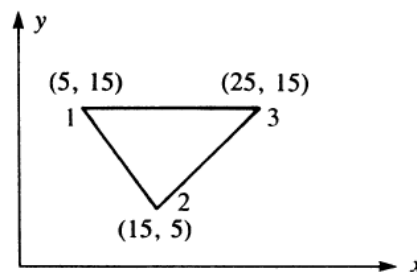

Figure 7
- 5A.** Evaluate the stiffness matrix for the plane stress element shown in Figure 7. **(05)**
- 5B.** For the plane strain elements shown in Figure 7, the nodal displacements are given as $u_1 = 0.005 \text{ mm}$, $v_1 = 0.002 \text{ mm}$, $u_2 = 0.0 \text{ mm}$, $v_2 = 0.0 \text{ mm}$, $u_3 = 0.005 \text{ mm}$, $v_3 = 0.0 \text{ mm}$. Determine the element stresses σ_x , σ_y , τ_{xy} and σ_1 , σ_2 , and the principal angle θ_p . **(05)**